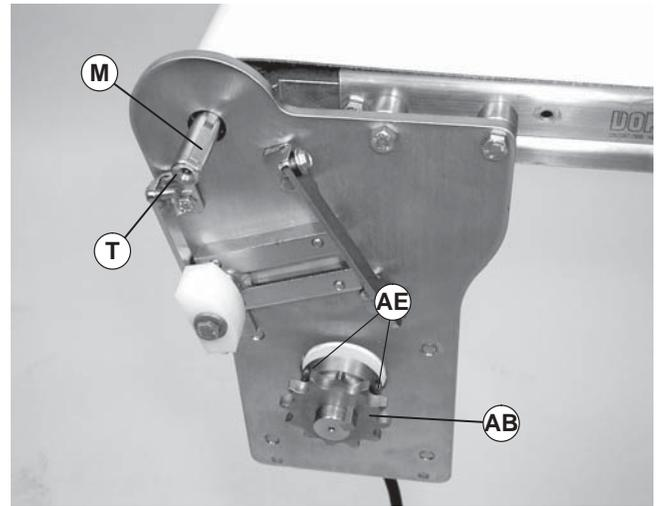
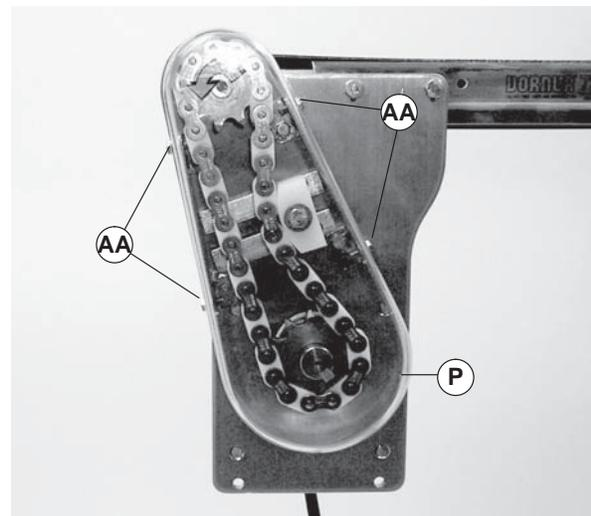

Figure 11
Figure 15
Figure 11 through Figure 15 show timing chain installation on a 7200 Series conveyor. Installation on a 7300 Series conveyor is similar.
4. Install key (Figure 11, item M) on drive spindle (AE).
Depending on sprocket sizes, it may be necessary to remove drive sprocket (Figure 11, item AB) by loosen two set screws (AE) to install chain and sprockets.
Do not over-tighten screws (Figure 15, item AA).
- Install cover (Figure 15, item P) and tighten four screws (AA) to 35 in-lb (4 Nm).